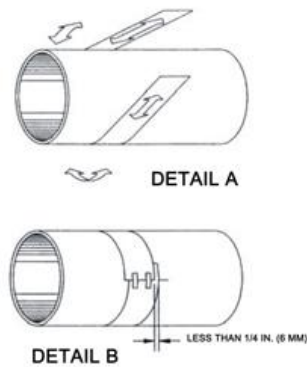

Figure 2.4
1. Wrap the paper around the pipe in the manner shown in **Figure 2.4**. Align the paper ends to within 6 mm.